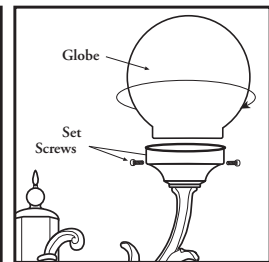

Figure 5
- For globe assembly, install bulb(s) first. Twist globe into place and secure with fitter screws, being careful not to over-tighten as excess pressure may cause globe to break (see figure 5).